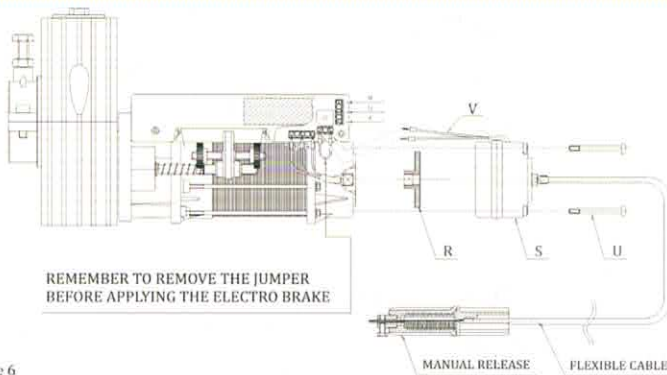

Figure 6
1. Insert the brake (R) on the back of the electrical motor (see figure 6).
2. Fixing the electrobrake (S) to the motor through the screws M5x50 (U).
3. Remove the bridge (T) from the limit switch.